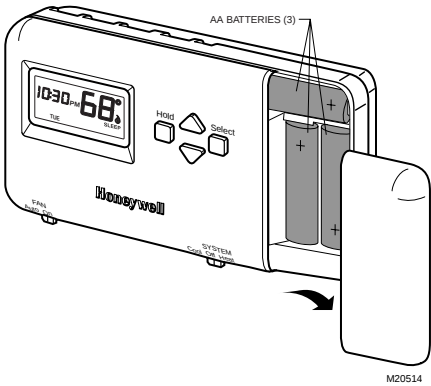

Fig. 13. Installing batteries.
- ☐ Remove the battery door, located on the right side of the thermostat, by pulling outward from the bottom. See Fig. 13.
- ☐ Insert three AA alkaline batteries as shown in Fig. 13.